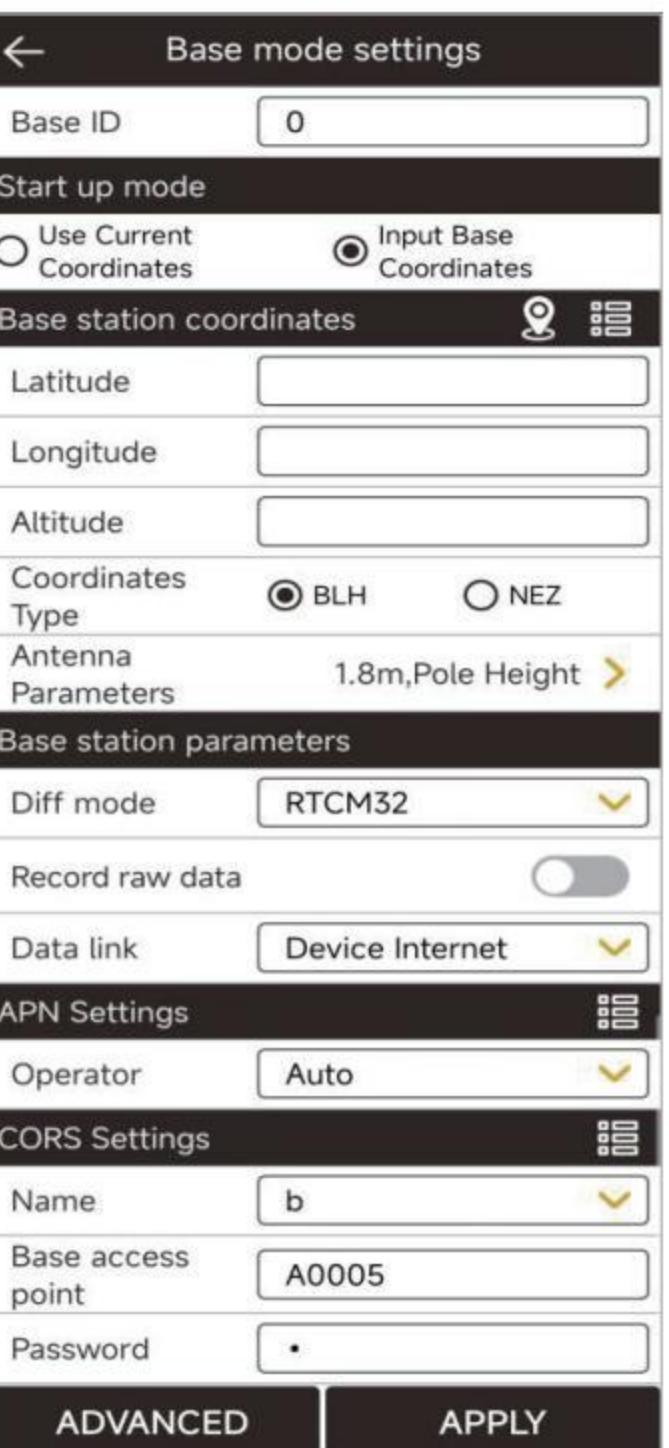

Figure 3.5-3
2. Specifying the base station coordinate: This involves the user specifying the coordinates based on the location where the device is set up. The user pre-knows the coordinates of this position, and these coordinates are used as the startup coordinates for outputting differential broadcast data. Please click  to measure a point, or click  to measure a point in real-time or select a coordinate value from the coordinate point library, as shown in Figure 3.5-3.